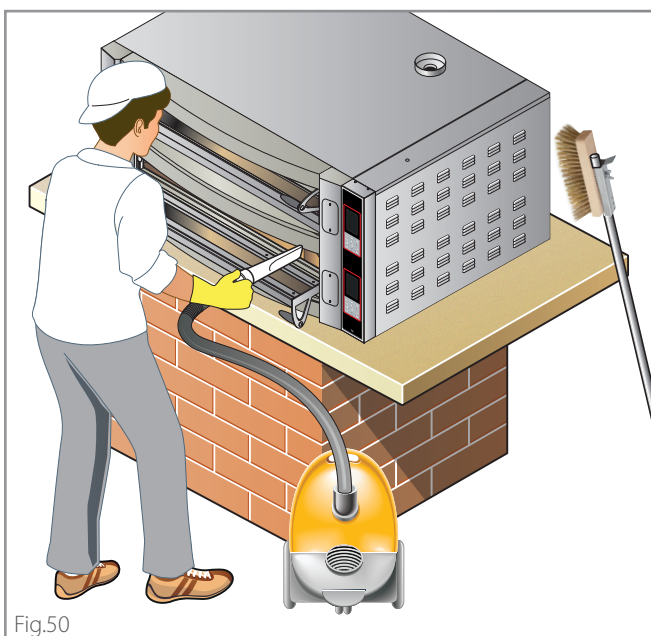

Fig.50
- ① Close the chimney touching the relative key.
- ② Set the **chamber temperature to 400 °C - 752 °F**.
- ③ Acting on the **"MIN"** and **"MAX"** keys, set both the **top** and **bottom powers** to **MAX**.
- ④ Switch the lights of the cooking chamber off.
- ⑤ When the temperature has been reached, switch the oven off with the **ON/OFF** key and let it cool down with the door closed.
- ⑥ With a cold oven, clean the chamber from the crystallized food residues using a natural fibre brush and then vacuum with an ash extraction bin ▶ **Fig.50**
- ② Touch the **ON/OFF** key.
- ③ Touch the **PYROLYSIS** key.
- ④ Confirm pressing **✓**: the heating of the oven chamber starts until the temperature of 400 °C - 752 °F is reached, when the function stops (to block the function early, press the **PYROLYSIS** key again).
- ⑤ With the oven cold, clean the chamber from the crystallized food residues using a natural fibre brush and then vacuum with an ash extraction bin ▶ **Fig.50**.